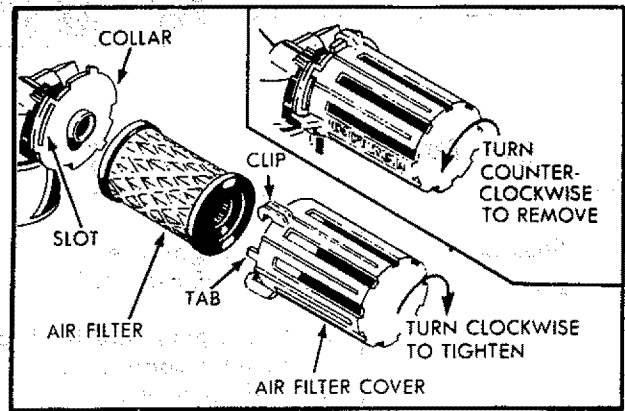

FIG. 30
1. Remove the air filter cover by turning counter-clockwise to the stop, and pull away from collar (See Fig. 30).
2. Remove filter from inside of cover (See Fig. 30).
6. Push in on cover and turn clockwise to tighten (See Fig. 30).